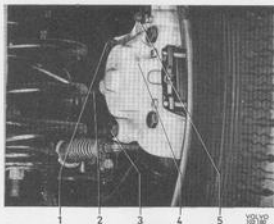
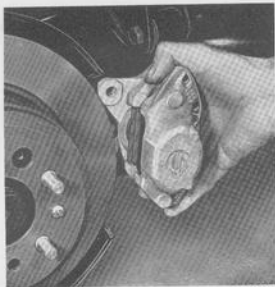

Fig. 5-23. Rear wheel brake unit fitted
Fig. 5-24. Removing rear brake caliper
3. Disconnect the brake line connection (2, Fig. 5-23) and fit the protective cover. Screw out the attaching bolts (1 and 3). Lift off the brake caliper, see Fig. 5-24.
2. Connect the brake line, see Fig. 5-23. Remove the plug for the vent-hole in the brake fluid container cover.